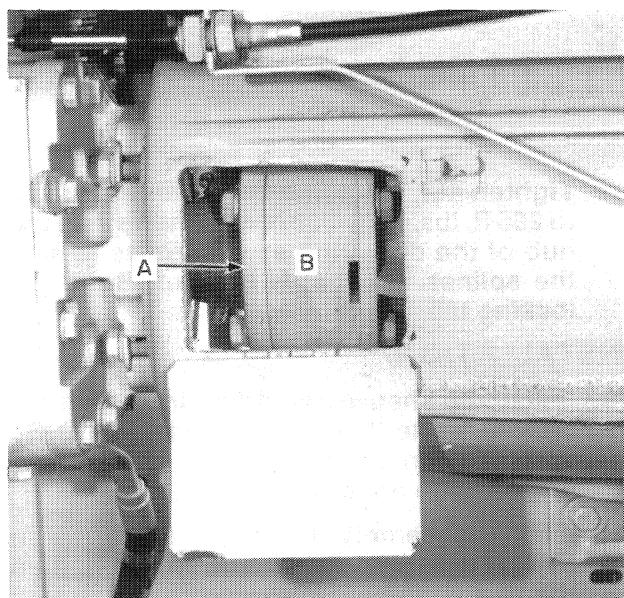

FIGURE 1-21
6. Install the hydrostatic pump and then install the flange, A, and spacer, B, Figure 1-21. Tighten all hardware.